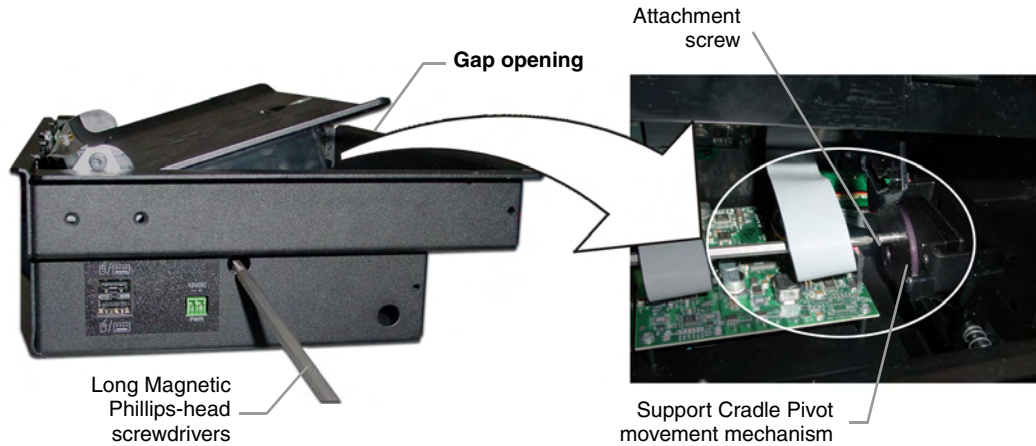

FIG. 23 Separating the support cradle from its movement mechanism
- 3.** Position the unit to allow a clear view through the gap between the cradle and the rim of the metallic WDS housing (FIG. 23). This view allows you to orient the alignment between the tip of the screwdriver and the screw holding the support cradle to its associated movement mechanism.
7. Insert the screwdriver (with attached securing screw) into the large hole along the side of the WDS housing (shown in FIG. 23 on page 22).
8. Position the unit so you can get a better view and orient the position of this screw back into its location where it secures the support cradle to its associated movement mechanism (shown in FIG. 23 on page 22).